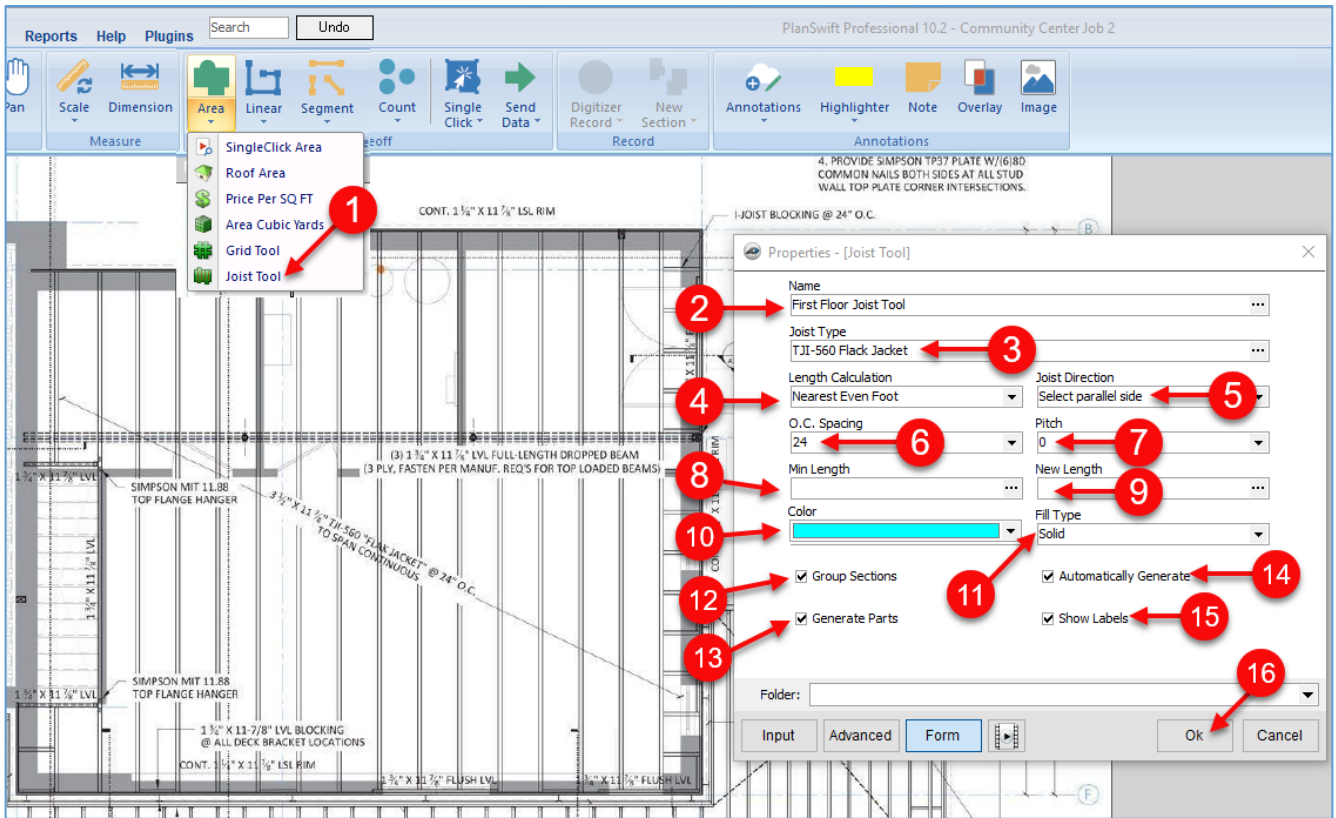

Figure 36-A
17. Starting at the arrow, perform the takeoff using the standard takeoff procedure (Fig. 36-B).